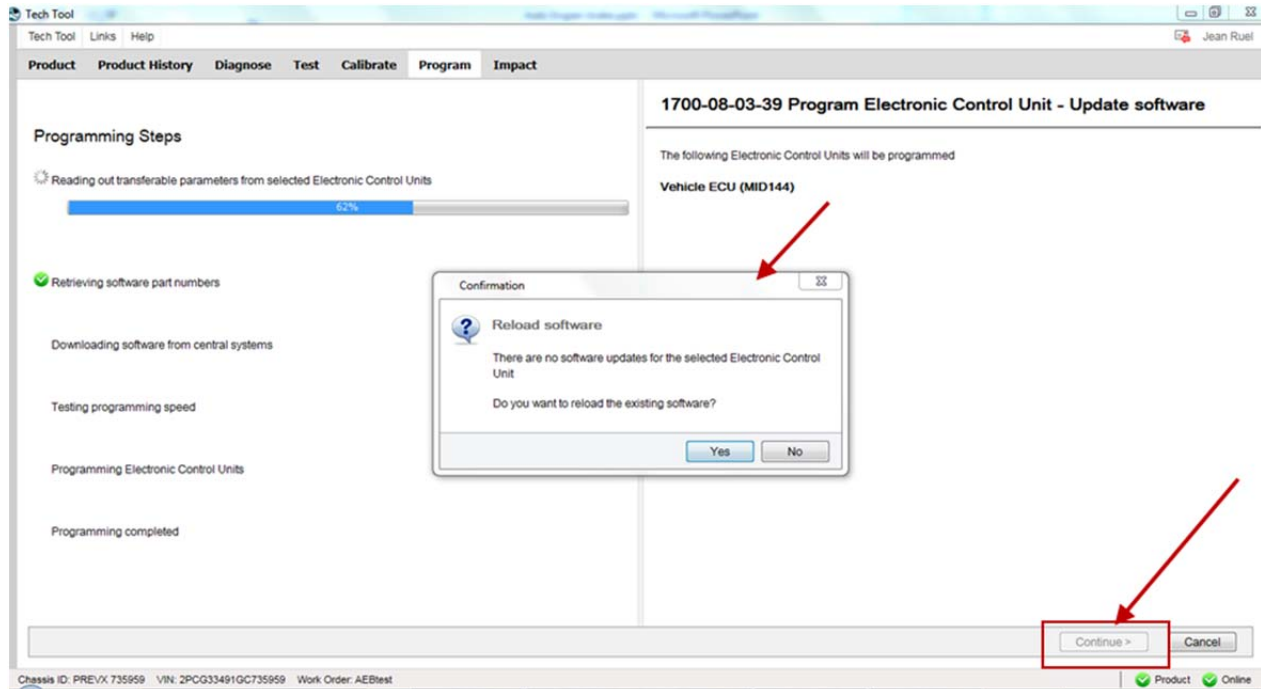

FIGURE 6
5. If the software present in the VECU is not up to date, the following message will appear. In this case, select YES (FIGURE 6).
6. Click CONTINUE and follow the instructions (FIGURE 6).